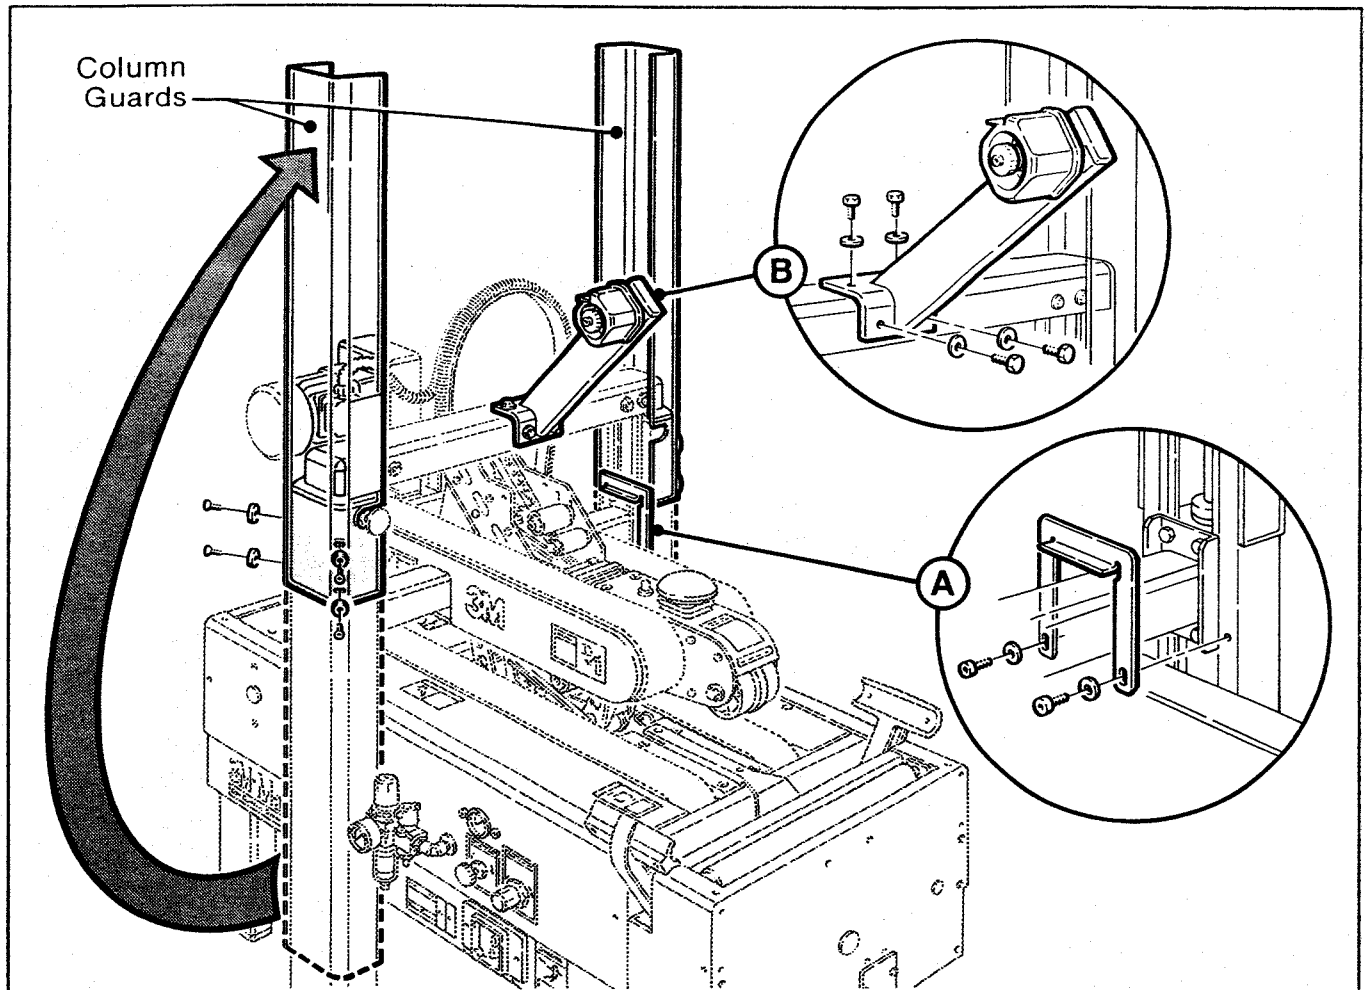

Figure 2-2 - Set-Up and Installation
4. The plastic column guards, shown in figure 2-2, have been installed upside down for shipping. They must be reversed for safe operation of the machine. Remove and retain the screws and washers holding the plastic guards on the columns. Remove the protective plastic film from the guards. Rotate the guards 180° and install back on the column as shown. Replace existing screws and washers to secure the guards in place.